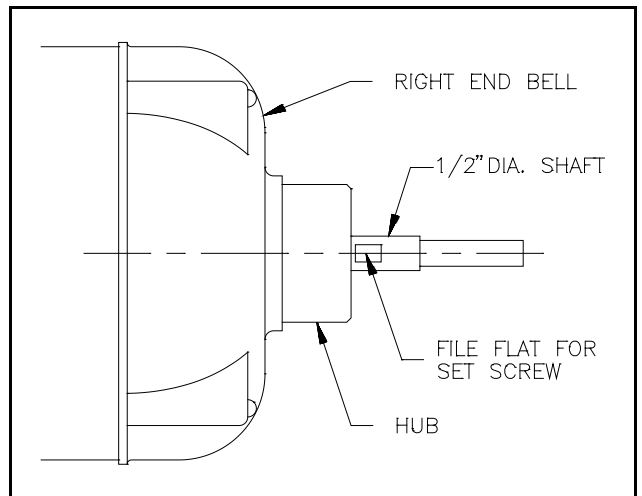

Figure 6. Hub and shaft
- 6.4 Hold the left end of the shaft wrapped in a shop towel with the pliers. File a flat on the shaft where the clutch set screw contacts the shaft. See Figure 6.